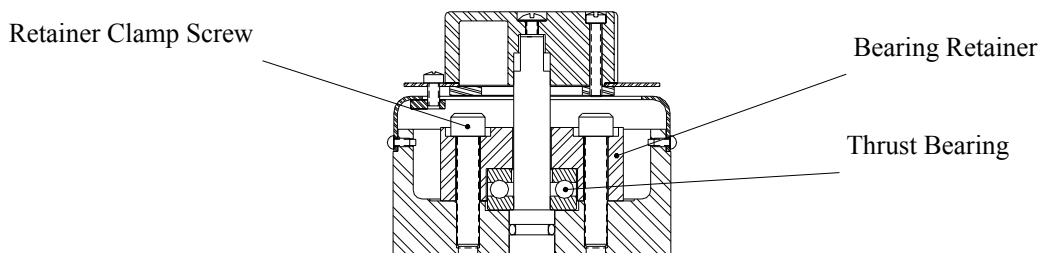

Figure 2
1. The only packing required is between the adjuster shaft and the bonnet. This consists of a PTFE thrust washer and an O-ring of standard size and of a material that is suitable for use with the liquid flowing through the controller. For high pressures, a thrust bearing is used. (See fig. 2)